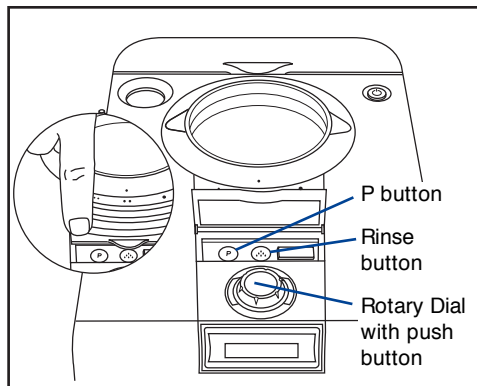

Fig. 4
5. Cover for Programming and Rinse buttons (Fig. 4)